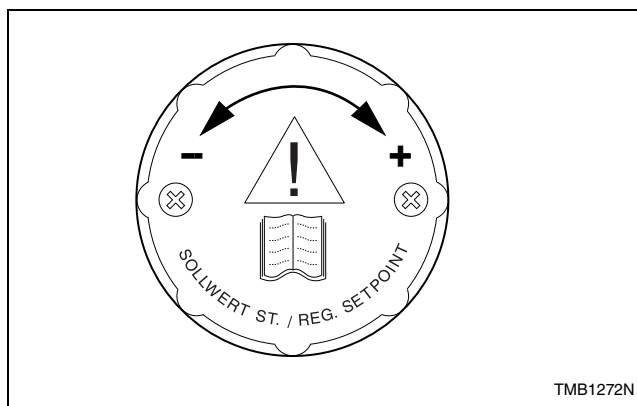

Figure 3
- b. Loosen screws on regulator adjustment knob, then turn knob clockwise. When knob no longer turns, retighten screws. Refer to *Figure 3*.